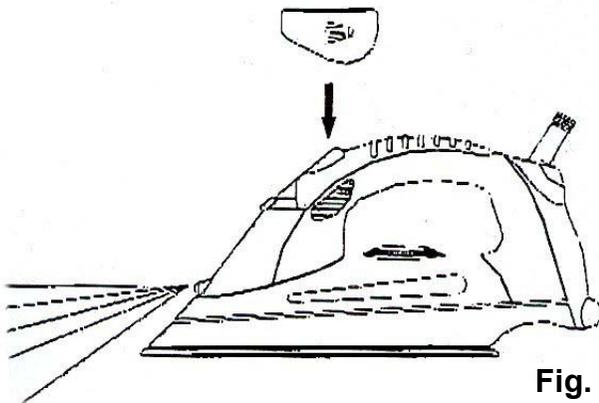

Fig. 8
- You can spray at any temperature by pushing on the spray button (4). (Fig 8)
- An electrical pump in the ironing stand (8) supplies the small reservoir (13) with spray water.
- When the internal reservoir (13) is empty, after intensive spraying, pull the steam trigger (3) for about 1 minute to refill it. Refilling is complete when you see/hear steam coming out from the steam vents on the iron soleplate.